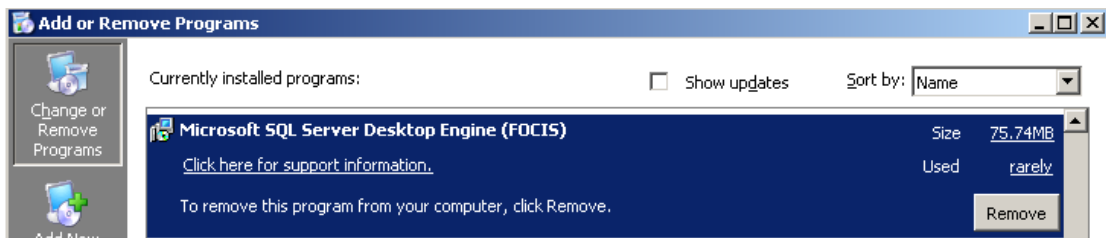

Figure II-27. Remove Microsoft SQL Server Desktop Engine (FOCIS)
b) Remove Microsoft SQL Server Desktop Engine (FOCIS) (Figure II-27)